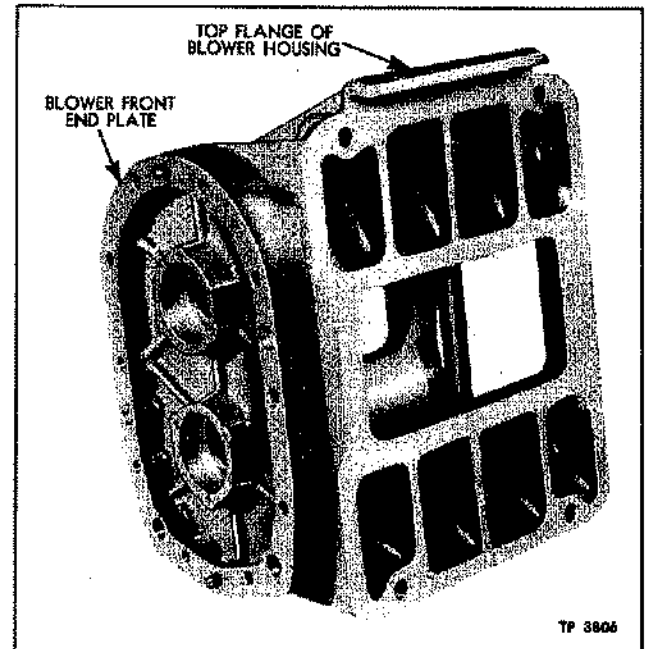

Figure 17—Position of Blower Front End Plate—RC, RD
When viewing blower housing from cylinder block (outlet) side, the end plate for the front will be assembled to the right-hand end of the housing for RB, and LA model engines, and to the left-hand end for RC, and RD model engines, as shown in figures 17 and 18.
2. Identify top and bottom of end plate as previously described, and shown in figure 17, start end plate dowels into dowel holes in blower housing. Tap dowels lightly to fit end plate to housing.